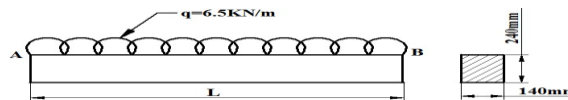

Figure 32
13. Determine the maximum allowable span length "L" for a simple beam as shown in **Figure 32**. The beam is of rectangular cross section (140mmx240mm) subjected to a uniformly distributed load  $q=6.5\text{KN/m}$  and allowable bending stress is 8.2Mpa